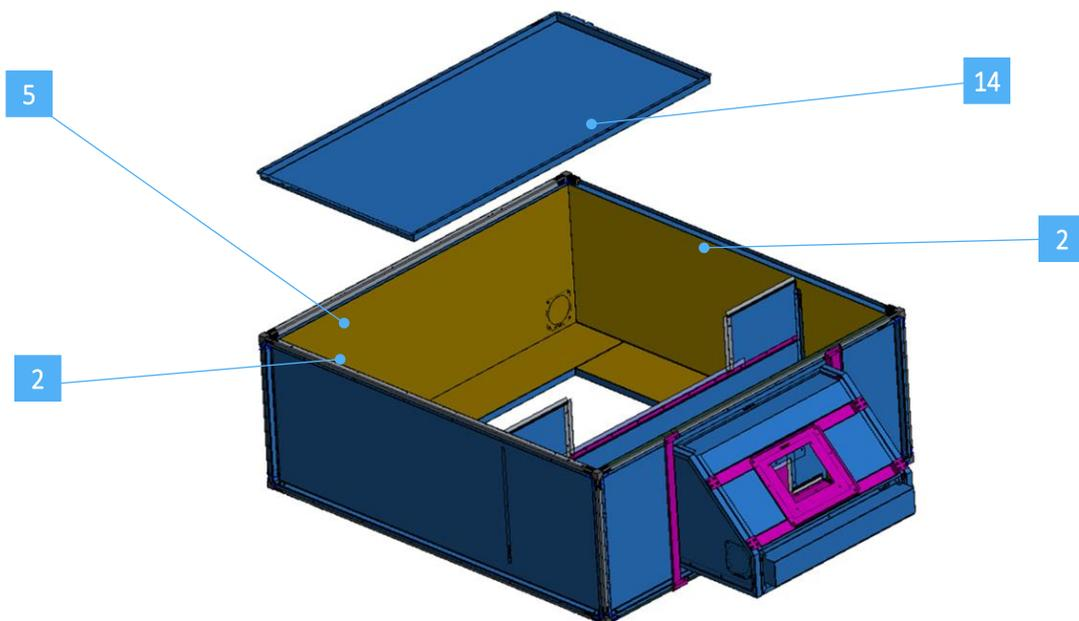

Fig. 14 *Top panel assembly*
- 10 Insert the top panel [14] (PN 73-00057-01) inside the tubes and fix it using the supplied M4 self-tapping screws (figure 14).